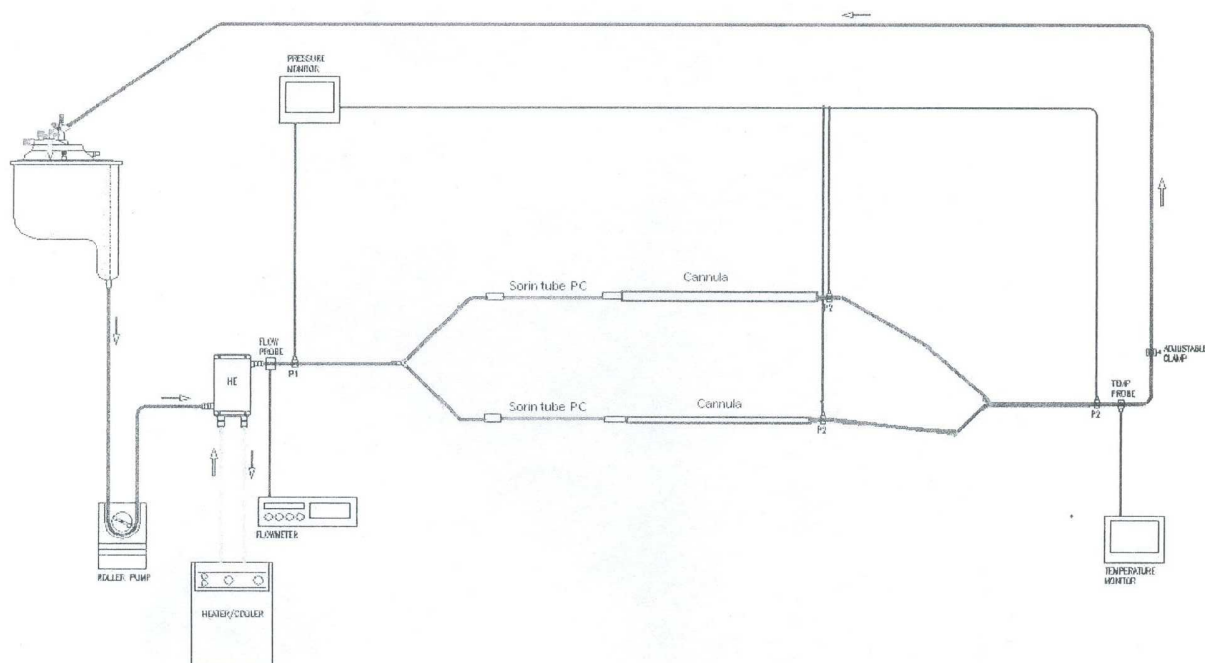

Figure 1: test circuit set-up
1. Assemble a circuit as per figure 1. All the connections on the circuit will be insured with ties, except for the connection between cannula's connector and Sorin tube coated that will be carried out only with alcohol.